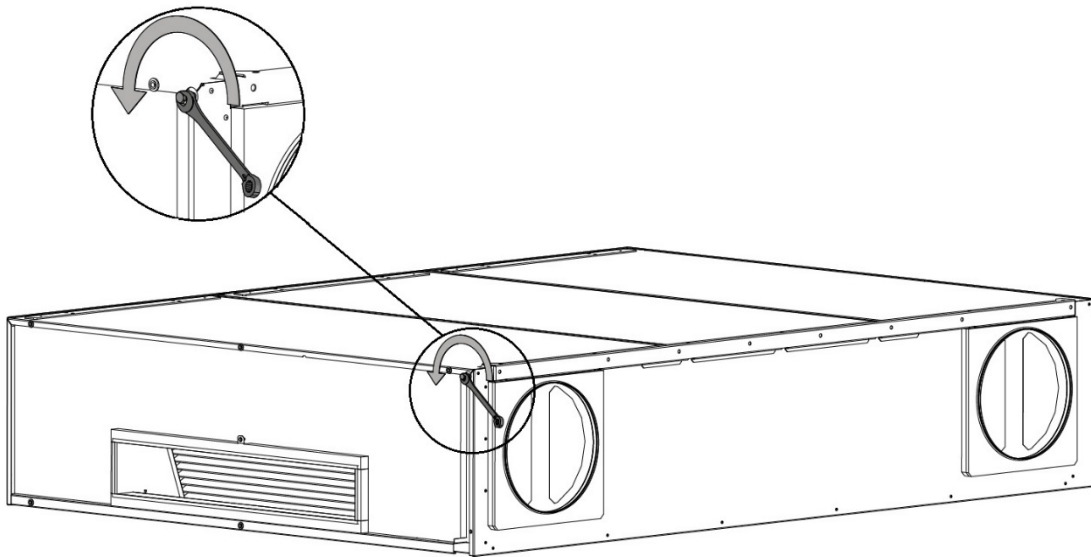
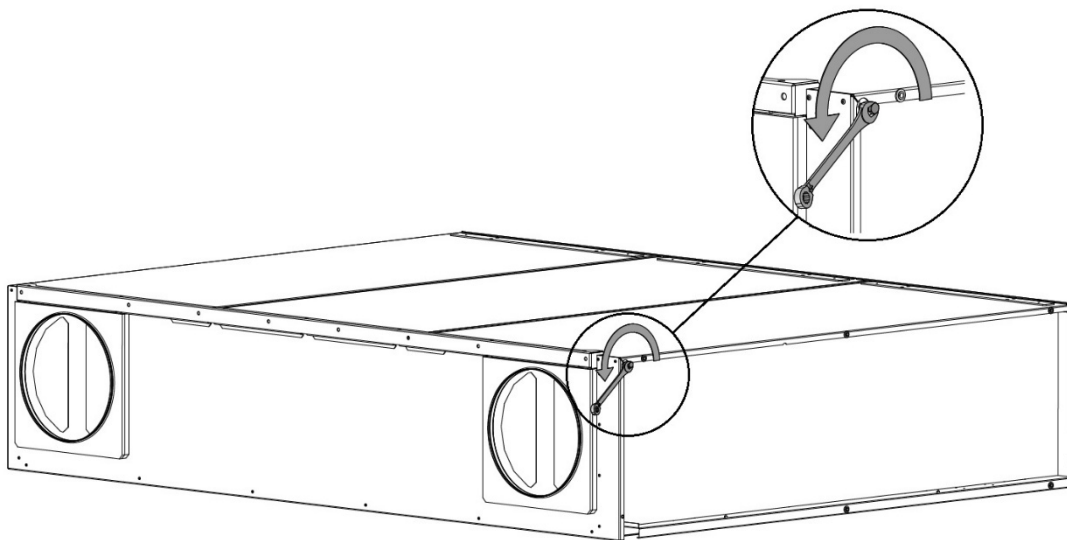

Figure 11: Disassemble the rear bracket, left-hand side seen from behind
Figure 12: Disassemble the rear bracket, right-hand side seen from behind
1. Disassemble the rear bracket, see Figure 11 and Figure 12: